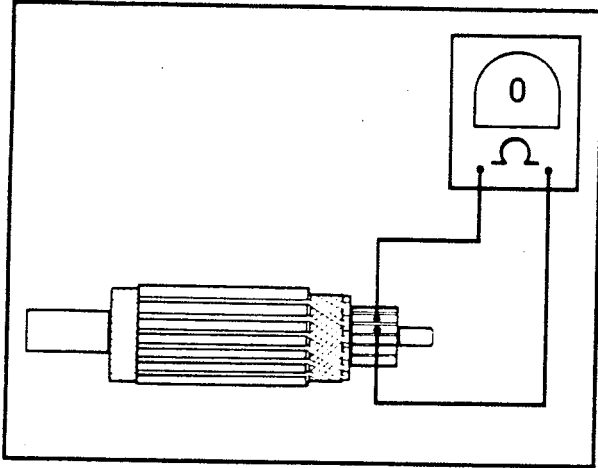

Figure 4-36. Armature Open Test
5. See Figure 4-36 Check for OPEN ARMATURE with an ohmmeter or continuity tester. Check for continuity between all commutator segments. There should be continuity (0 ohms) at all test points. No continuity at any test point indicates armature is open and should be replaced.